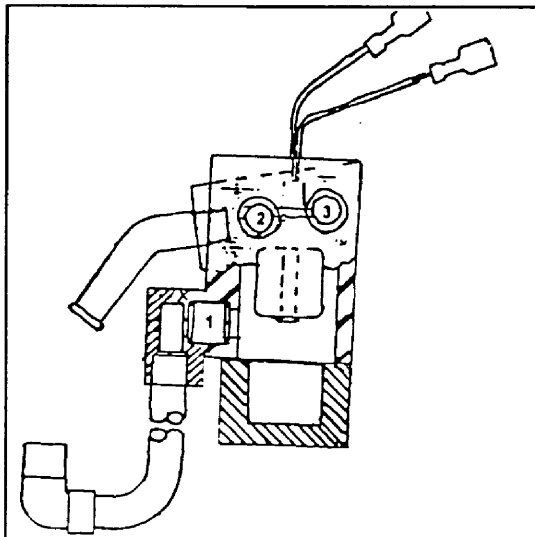

Figure 1
4. Remove 2)retaining screws on (Air) block and replace CK1 Check Valve with a p/n 400345. See Figure 1 - (1).
5. Remove 4)retaining screws on (overflow) block and replace CK2 and CK3 Check Valves with a p/n 400510. See Figure 1 - (2) and (3).